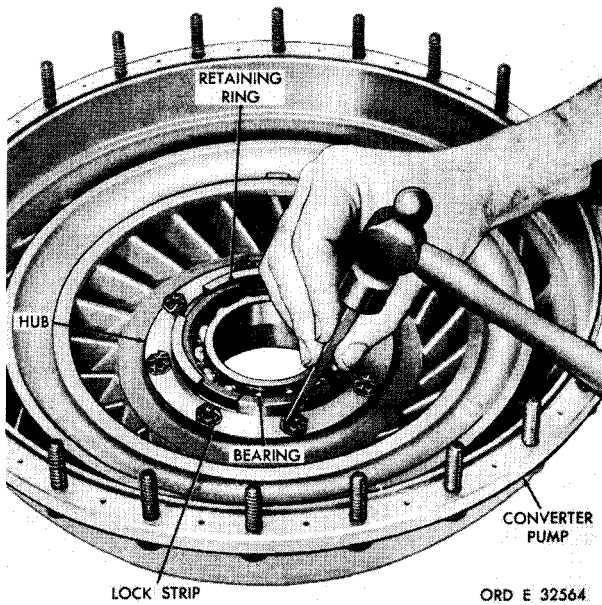

Figure 145. Straightening corners of converter pump hub lock strip
(1) Straighten the tabs of lock strips on the converter pump hub (fig. 145).
(2) Using a 7/16-inch wrench, remove eight self-locking bolts and four lock strips retaining the torque converter pump hub in the converter pump. Remove the hub.